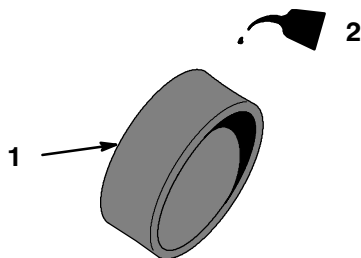

Figure 26
- Saturate the element with clean engine oil (Fig. 26), squeeze out the excess oil, the wrap it in a clean rag and squeeze it as dry as possible. Be careful not to tear the element.